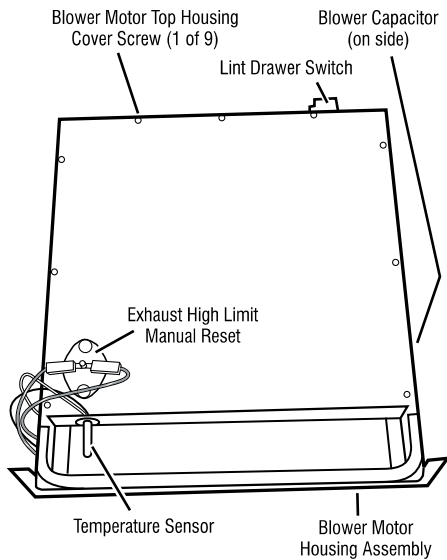

Figure 12. Blower motor components
The blower assembly includes the temperature sensor, exhaust high limit, lint drawer switch, and blower motor. See Figure 12.
- c) Pull the blower motor housing assembly far enough forward so you can access the lint drawer switch. See Figure 12.